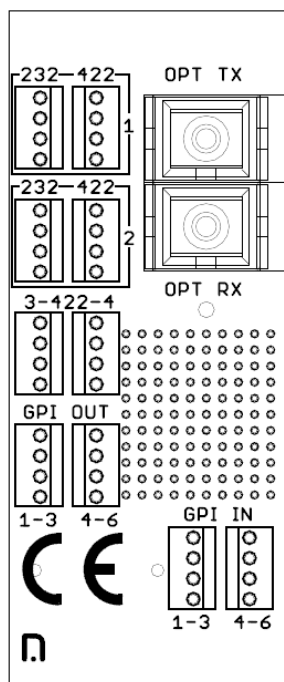

Figure 4: D-422-MG-C3 Connector module
*D-422-MG-C3* module use Molex KK connectors and interconnects with RJ45-KK included in most FlashCase variants. *D-422-MG-C3* is shown in figure 4. Note that this connector module only occupies one slot in the sub-rack.